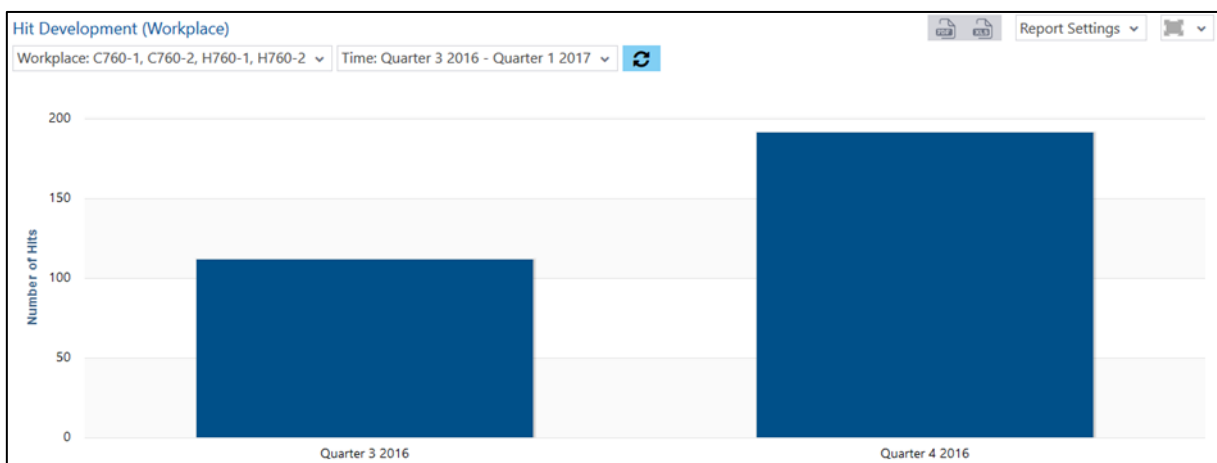

Fig. 96: Hit development (workplace) as column chart
- Hit development (workplace) as column chart (fig. 96):